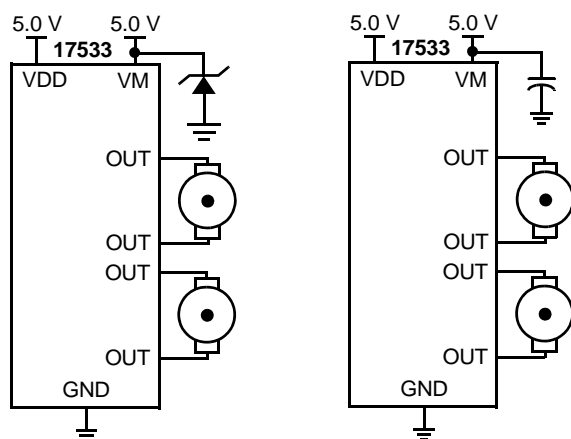

Figure 7. CEMF Snubbing Techniques
Care must be taken to protect the IC from potentially damaging CEMF spikes induced when commuting currents in inductive loads. Typical practice is to provide snubbing of voltage transients by placing a zener or a capacitor at the supply pin (VM) (see Figure 7).